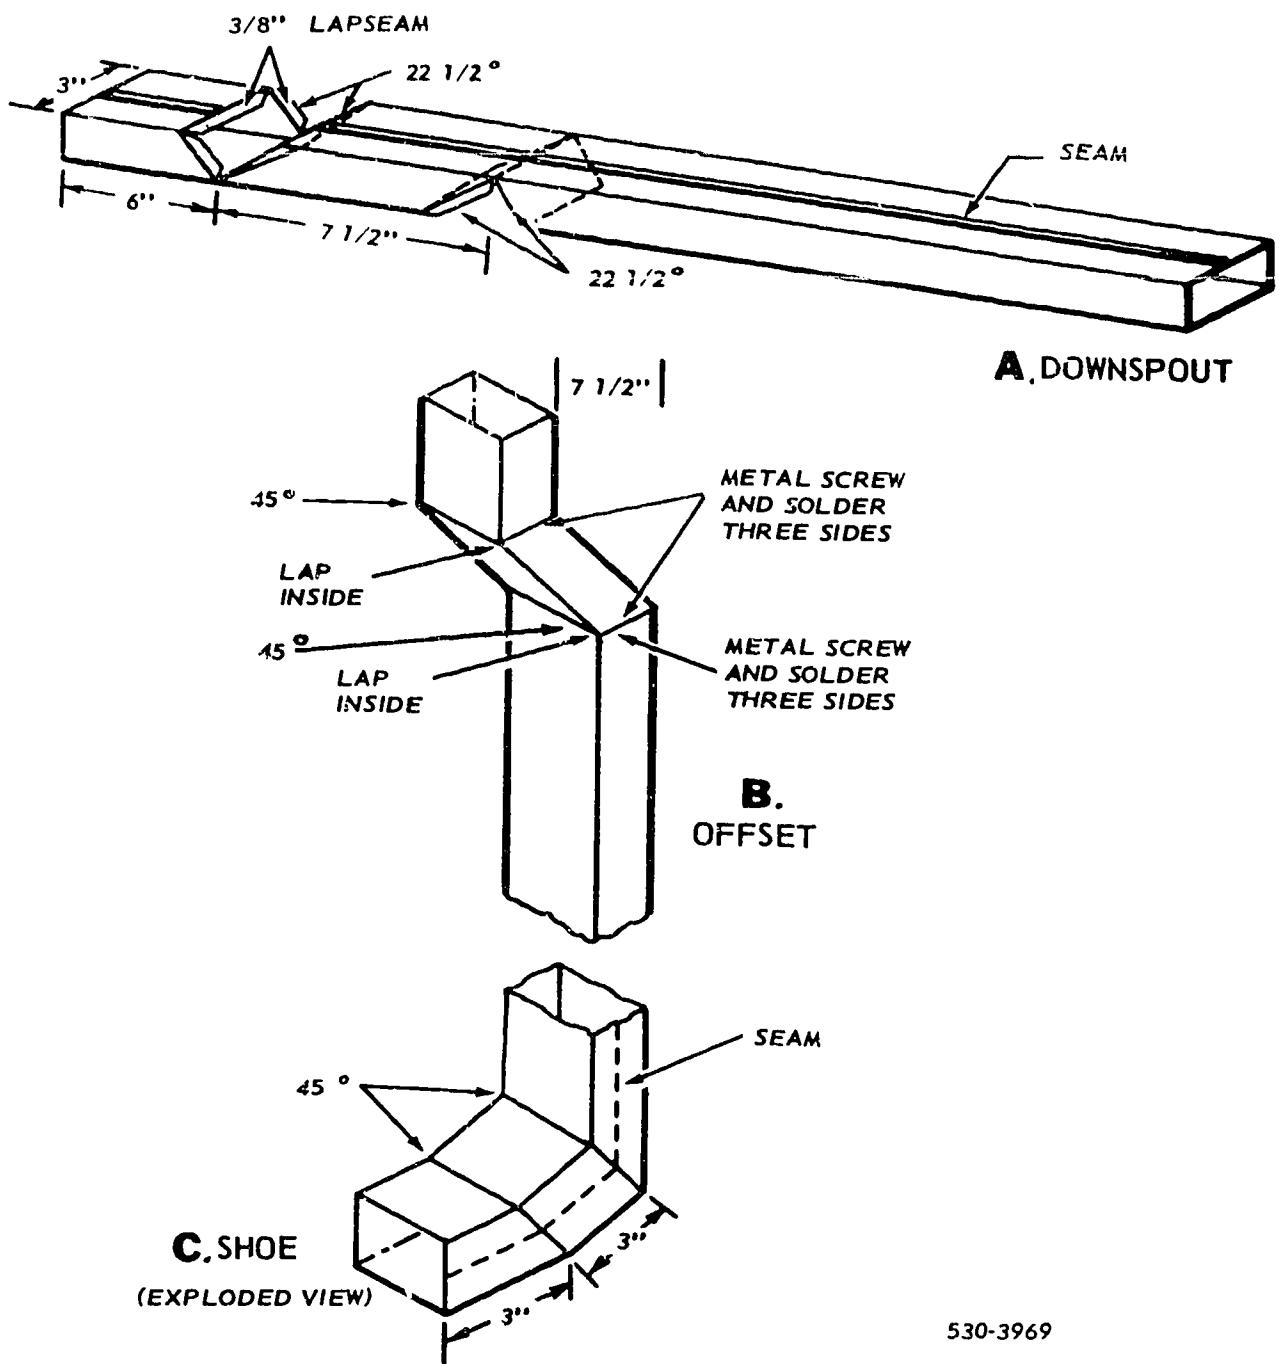

Figure 3-30. Making downspout offset and shoe.
*Offset downspouts.* The top joint of the downspout shown in view B of figure 3-30 is offset 8 inches from the inside of the drop outlet to the wall of the building; therefore, you need to make a  $7\frac{1}{2}$ -inch offset. To do this, make a  $45^\circ$  elbow in two places on the downspout, as shown in view A. One  $45^\circ$  elbow is 6 inches from the end that connects to the drop outlet; the second  $45^\circ$  elbow is  $1\frac{1}{8}$  inches from the first elbow. Start the first  $45^\circ$  elbow by notching out a  $22\frac{1}{4}^\circ$  angle on each side of the 6inch line. Make sure this first notch is on the seam side of the downspout. Make  $\frac{1}{8}$ -inch allowances for the lap seam flanges so that they lap in the direction of water flow. On the opposite side of the downspout, make the center of the second notch  $1\frac{1}{8}$  inches from the center of the first notch. Cut out each notch by starting a hole with a  $\frac{1}{2}$ -inch cold chisel; then cut the metal with aviation snips. Cut the seam with a hand hacksaw, to prevent damaging the blades of the snips. Notch both ends of the  $\frac{1}{8}$ -inch lap seam allowances, and turn them in so that they will slip inside when the downspout is bent into position. The bending is easily done by hand. This changes the two notches to  $45^\circ$  elbows. The two elbows make the offset in the downspout. Install sheet metal screws through the sides with the lap seam flanges, and solder the seams and screwheads to prevent leaks.
Make the shoe shown in figure 3-30 by notching the metal on the side opposite the seam to make two  $45^\circ$